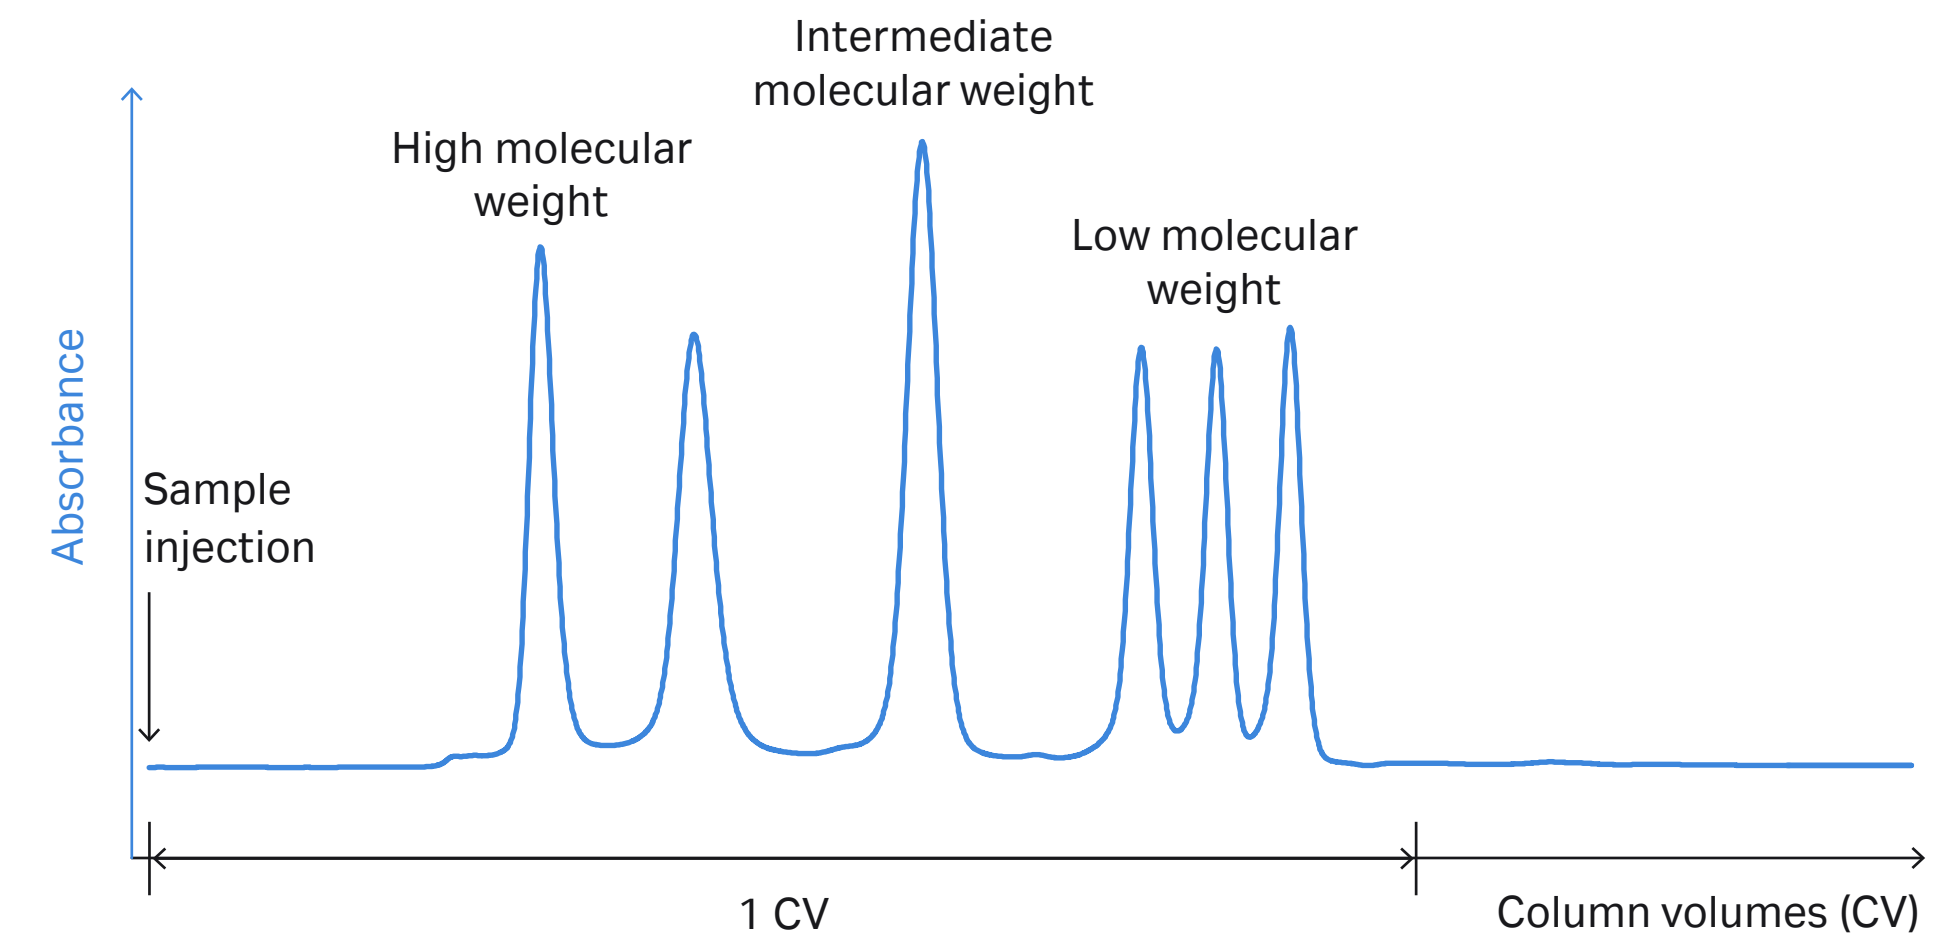

Fig 1.3. Typical high-resolution SEC separation.
1. Preparative size exclusion chromatography: a high-resolution size-based separation of biomolecules with fractionation. Preparative SEC is performed to isolate one or more components of a sample. Separated components can directly be transferred to a suitable buffer for assay or storage. Small sample volumes of 0.5% to 4% of the total column volume are applied at low flow rates using long columns, often 60 cm or longer. The particle size is commonly $> 12\ \mu\text{m}$, providing low column back pressure. Resolution of preparative SEC varies from high to more moderate depending on the particle size. For optimal results, samples with few components such as those partly purified by other chromatography techniques are used. This makes preparative SEC well-suited for the final polishing step in a purification scheme; see handbook Strategies for Protein Purification. Figure 1.3 shows the chromatogram of a typical high-resolution separation. As the separation takes place in only 1 CV, it is essential to have a well packed column for good results in SEC. For convenience and optimal performance, prepacked SEC columns are recommended.
2. Analytical size exclusion chromatography: a high-resolution size-based separation without fractionation (Fig 1.3). Often, the analysis is connected to highly selective detectors such as mass spectrometers and photodiode arrays (DAD), as well as multiangle light scattering (MALS) or fluorescence detectors.